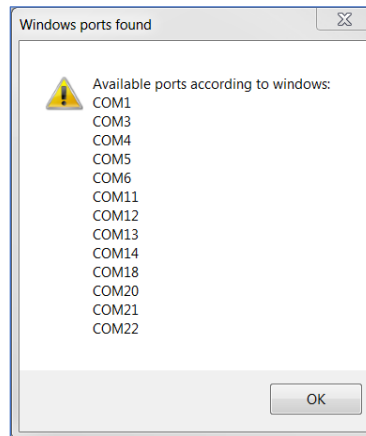

Figure 24: Windows ports found Message
- Windows Ports – Displays a message containing a list of all available Windows ports, whether they are in use or not, as shown in Figure 24